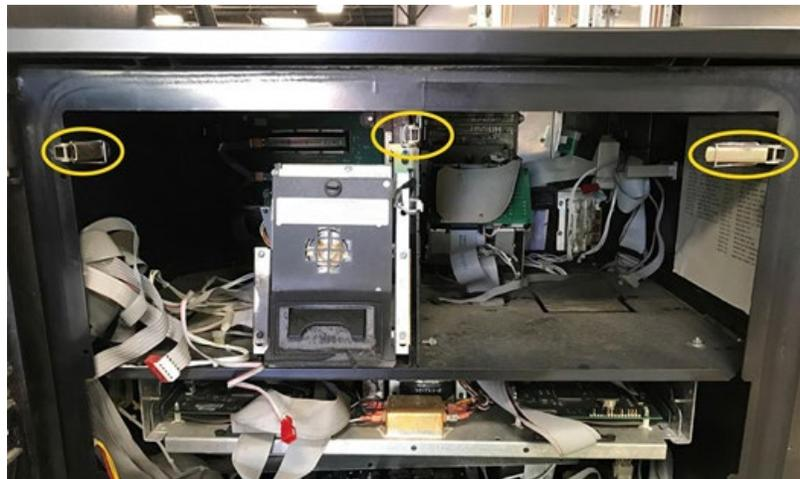

Figure 46
- 2) Engage 3 inner latches holding the main dispenser door. See Figure 46 below.